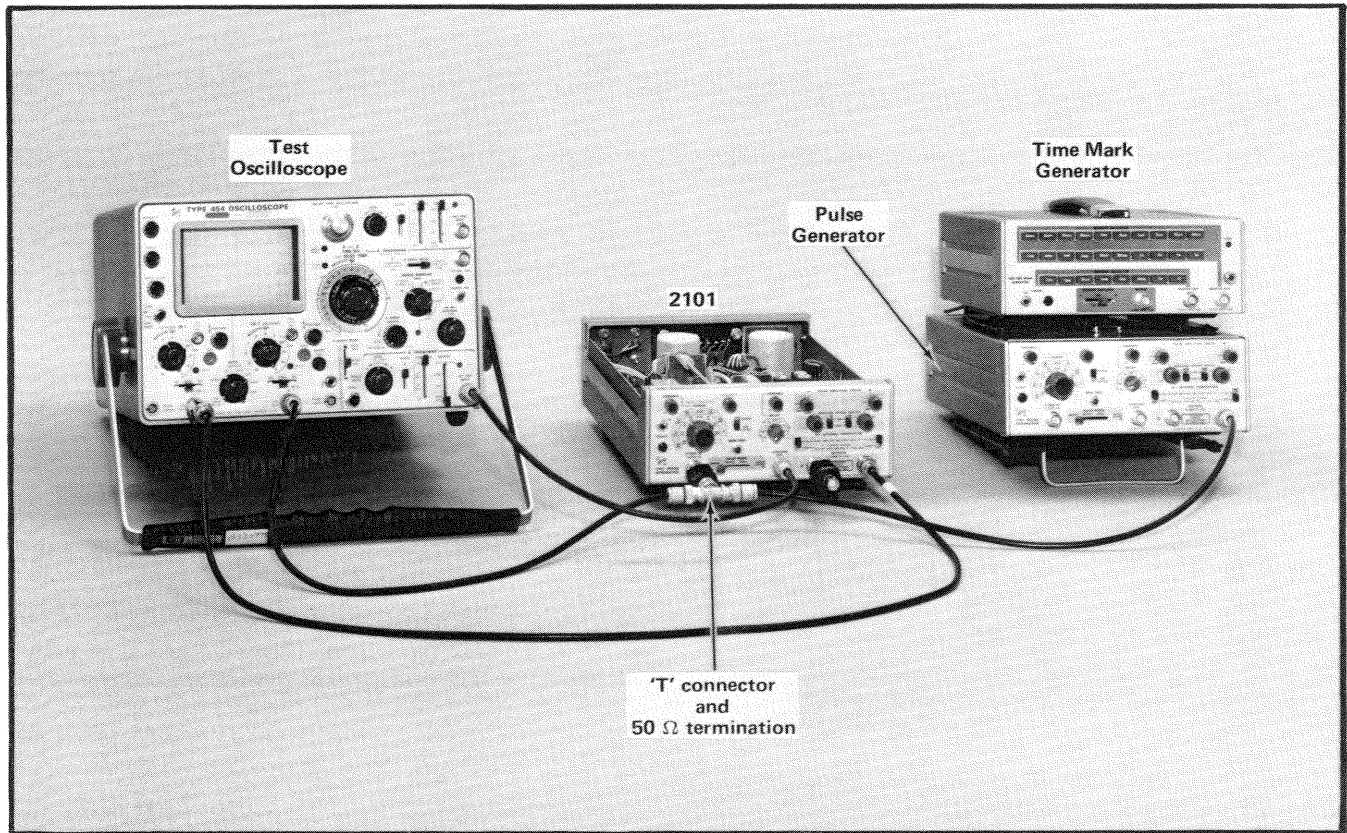

Fig. 5-13. Test equipment setup to check external gated mode and external trigger operation. (Step 12)
Control settings for Fig. 5-13
a. Equipment setup is shown in Fig. 5-13.